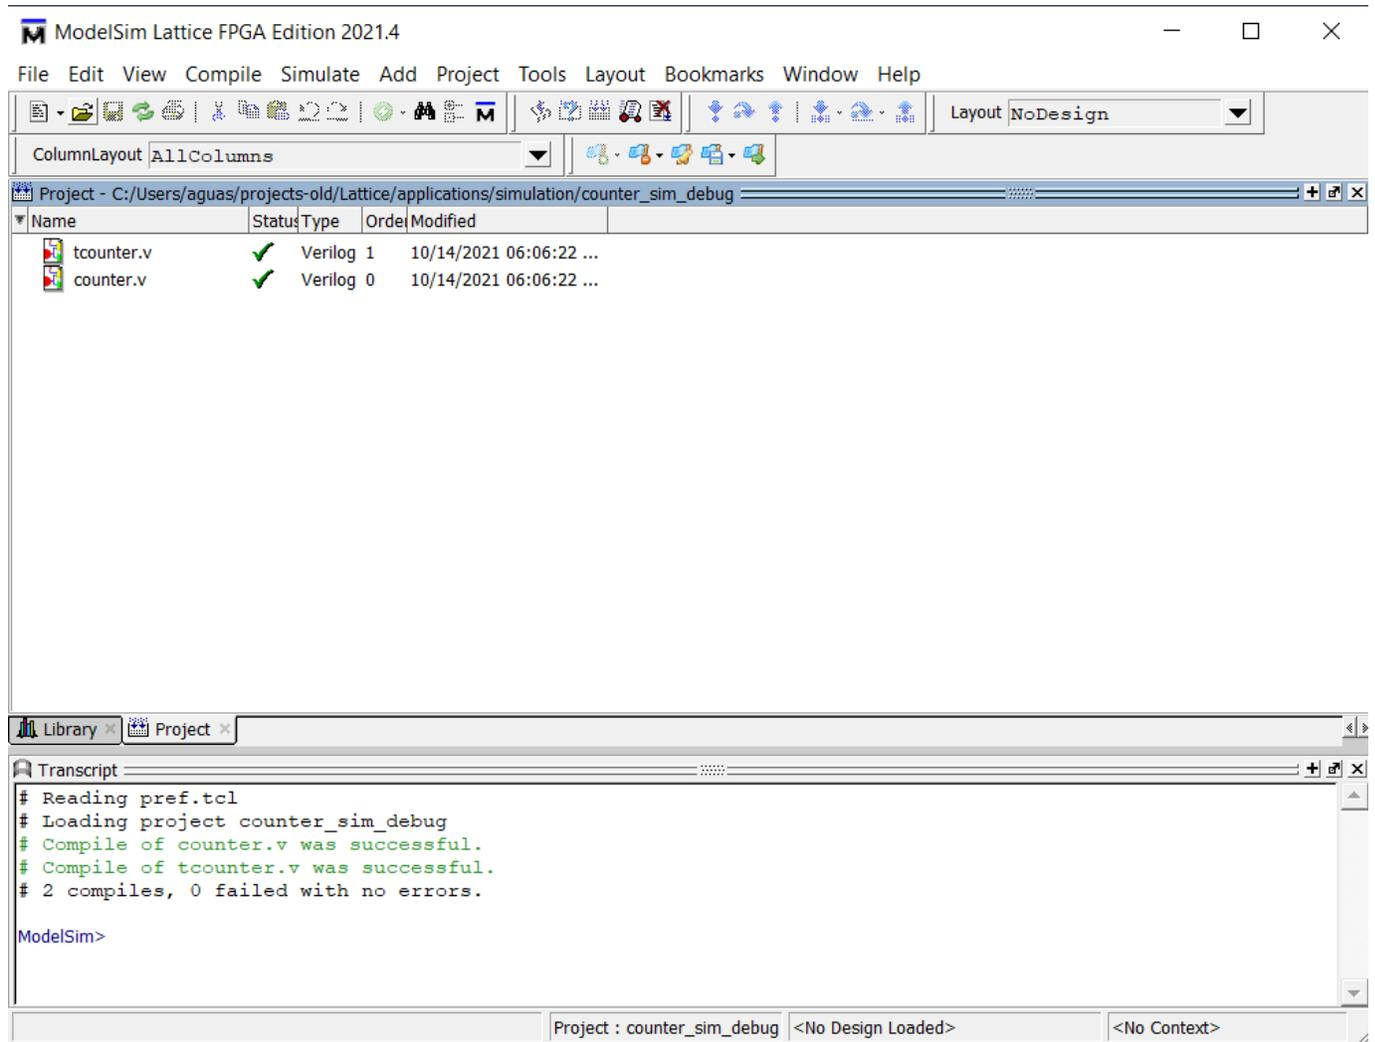

Figure 5: Compiling the Project
6. From the top menu, select **Compile > Compile All** to compile **tcounter.v** and **counter.v**, see **Figure 5**.